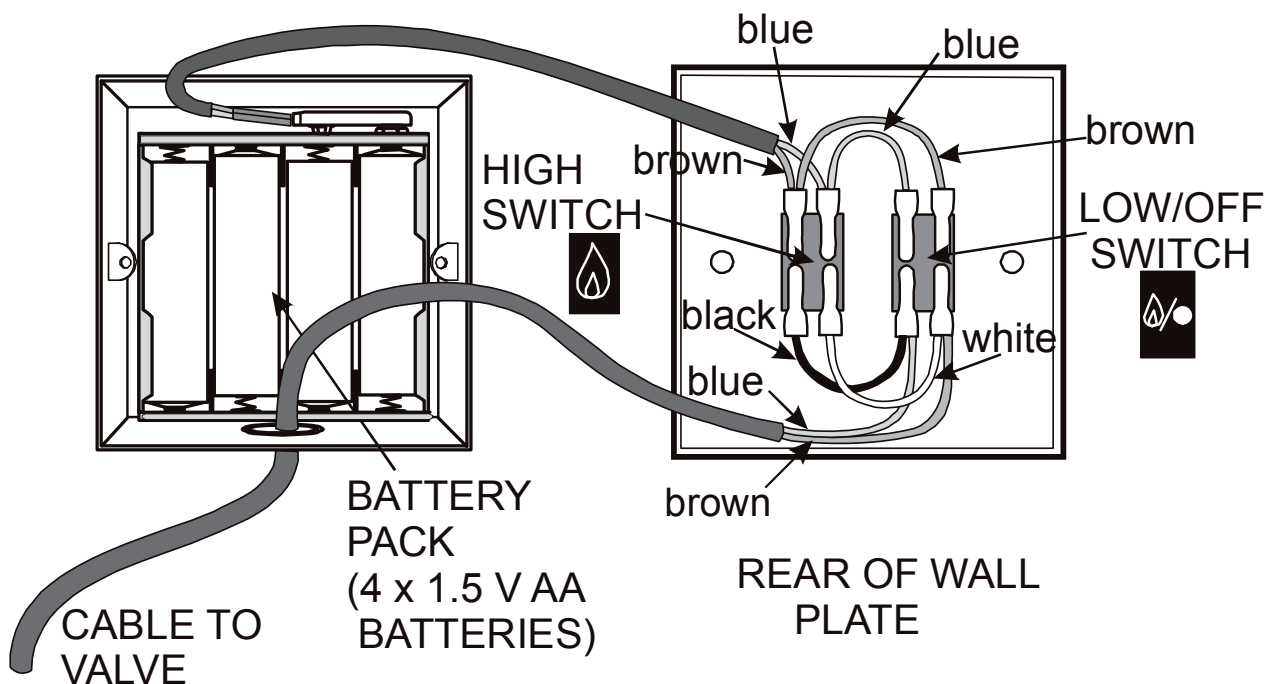

Figure 59
3. Make the connections on the wall switches as shown in **Figure 59**.